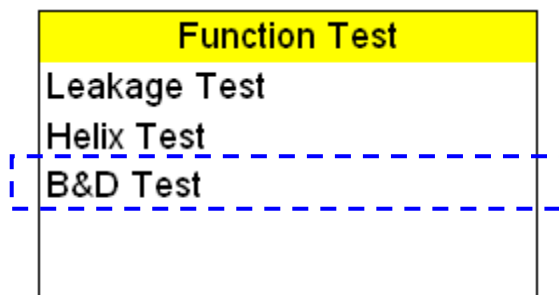

Figure 105
- D. Press  or  button to select B&D Test program (Figure 105).